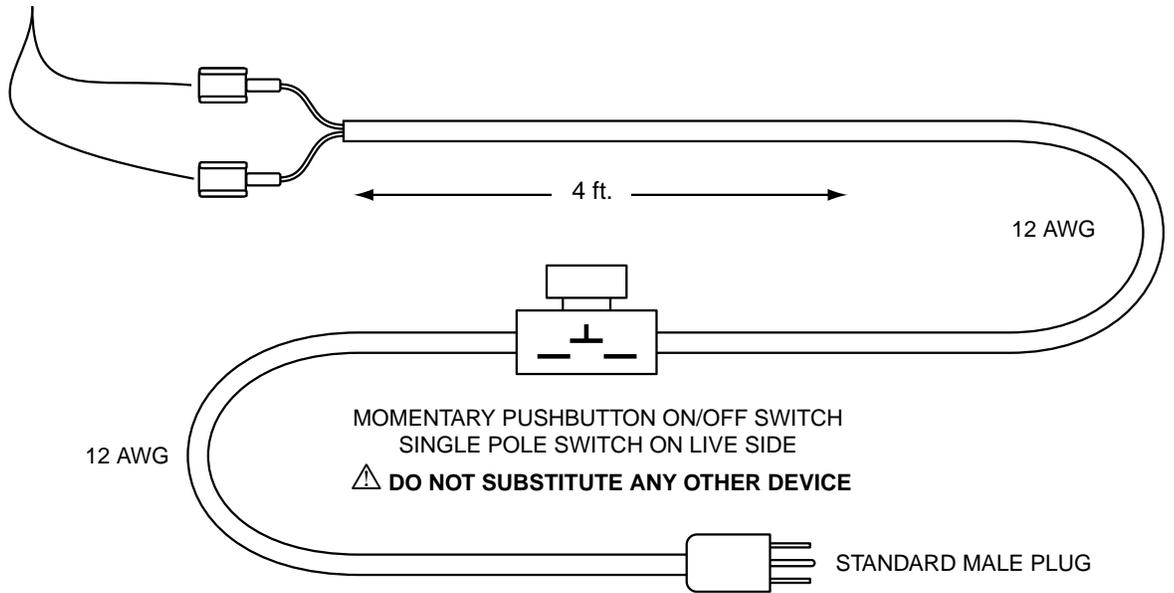
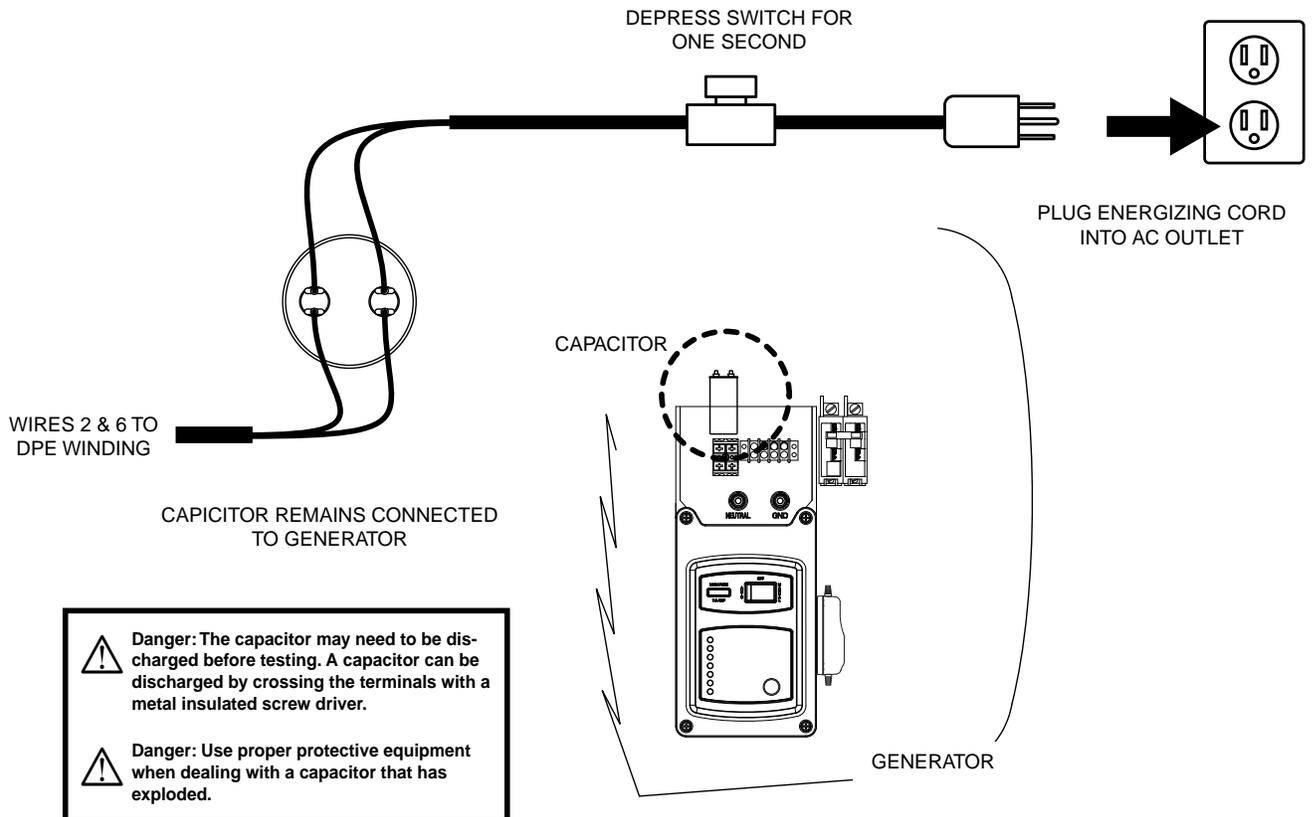

Figure 17. Construction of Energizing Cord
Figure 18. Energizing Cord Connection
1. Construct an energizing cord that is similar to that shown in Figure 17 and connect it as shown in Figure 18.